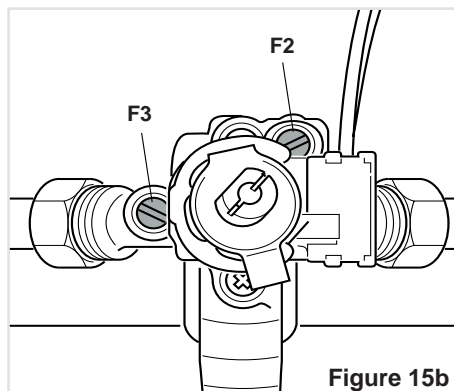

Figure 15b
- Using a screwdriver turn the screw “F2” until the correct setting is obtained (fig. 15b).
- Using a screwdriver turn the screw “F3” until the correct setting is obtained (fig. 15b).